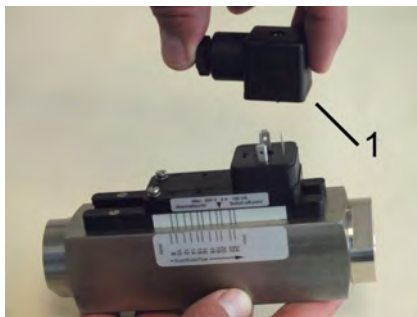

Fig. 22: Remove socket
- Remove the socket (Fig. 22/1)